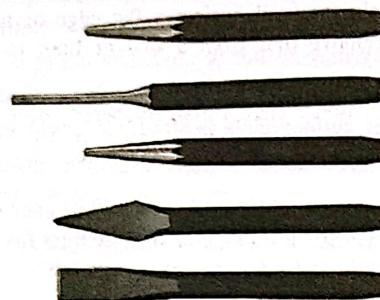

Fig. 1.7. Pointed chisel.
**Pointed chisel :** This chisel is used for small detailed work and getting rid of high points. (See Fig. 1.7)